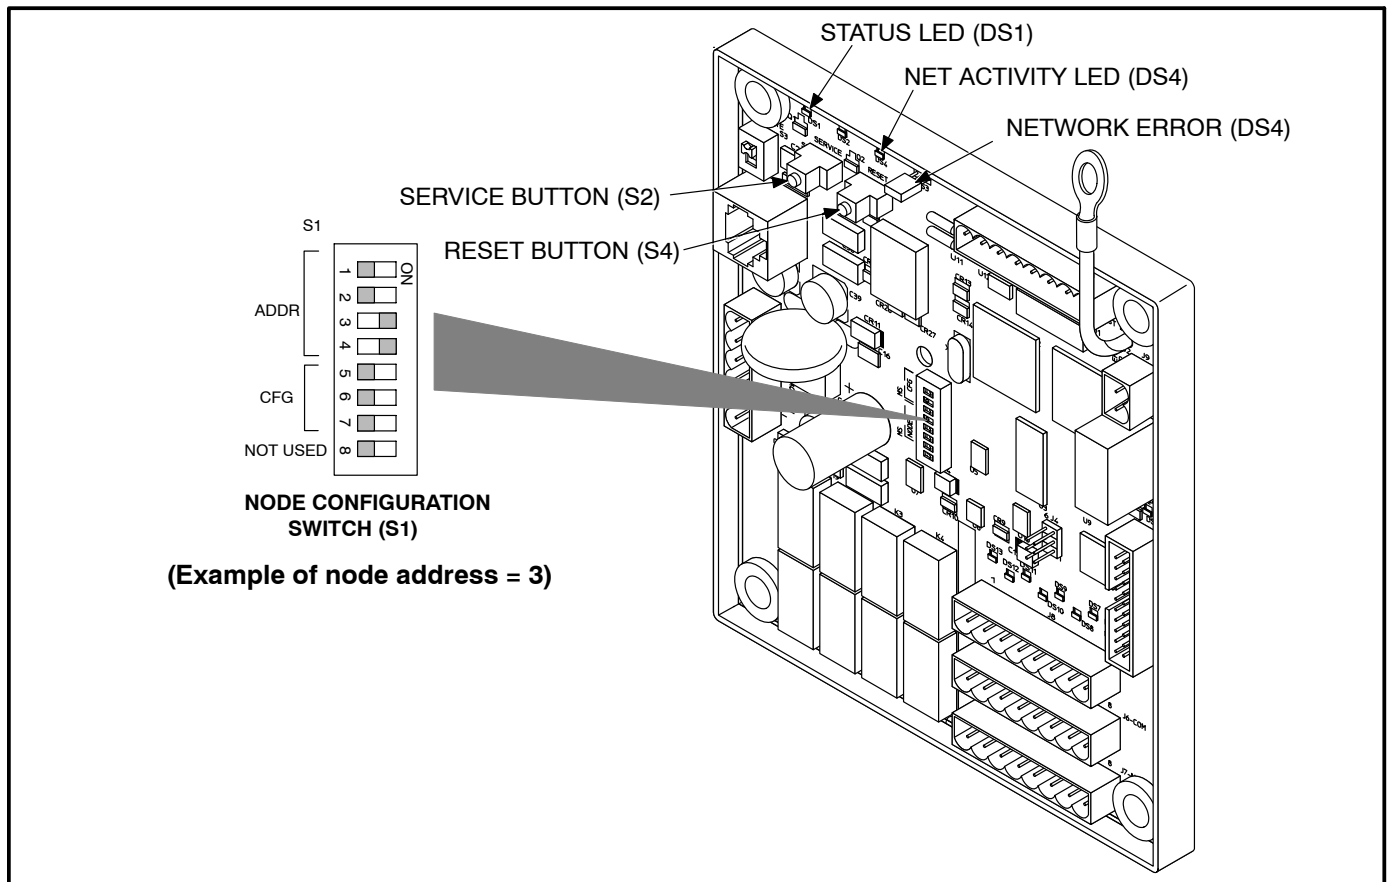

FIGURE 12-7. DIM SWITCHES
0011=0+0+2+1=3 decimal). See Table 12-1 and Figure 12-7.
Be sure to assign each node in the network a unique address. The *Node Address* can be verified by counting the number of pulses of the “STATUS” LED (DS1). See Figure 12-7.
5. Press and hold the *Service* button (S2) (see Figure 12-7) until the *Network Status* LED (DS1) begins flashing (amber).
To verify the genset has installed itself properly and is bound to the ATS, disconnect the J3 data cable from the engine interface board. The “Network Error” LED (DS3) (see Figure 12-7) should turn on (red) within 10 seconds. This indicates communications have failed and that the device was properly bound.